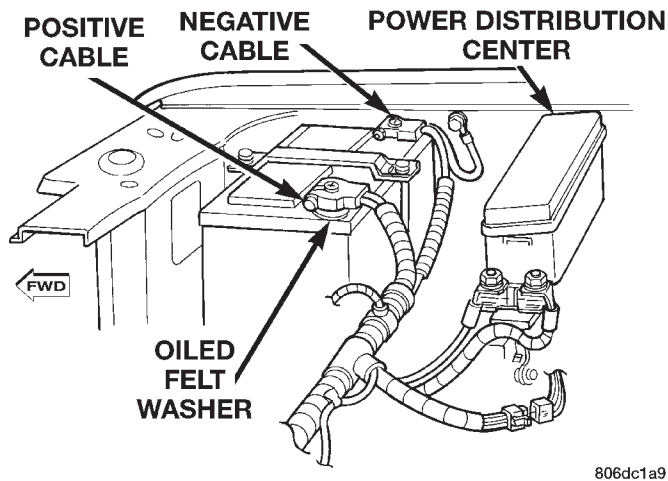

Fig. 16 Battery Cables
(11) Position the battery in the tray. Ensure that the positive and negative terminal posts are correctly positioned. The cable terminal clamps must reach the correct battery post without stretching the cables (Fig. 16).
(12) Loosely install the battery holddown hardware. Ensure that the battery base is correctly positioned in the tray, then tighten the holddowns to 2.2 N·m (20 in. lbs.).